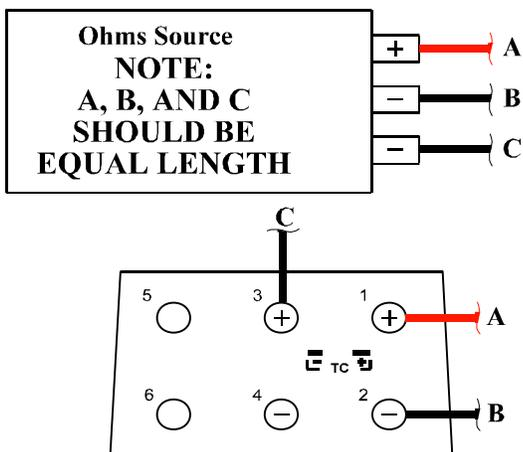

FIGURE 11
3. Hi Calibration: Connect an Ohms Source (Set to 1000Ω) to terminals 1, 2, and 3 on the 830 (See figure 11). For maximum accuracy, the three leads should be of equal length. Press *STORE/RESET* and then press *TYPE/ENG UNITS*.
3. Hi Calibration: Connect an Ohms Source (Set to 400Ω) to terminals 1, 2, and 3 of the 830 (See figure 11). For maximum accuracy, the three leads should be of equal length. Press *STORE/RESET* and then press *TYPE/ENC UNITS*.